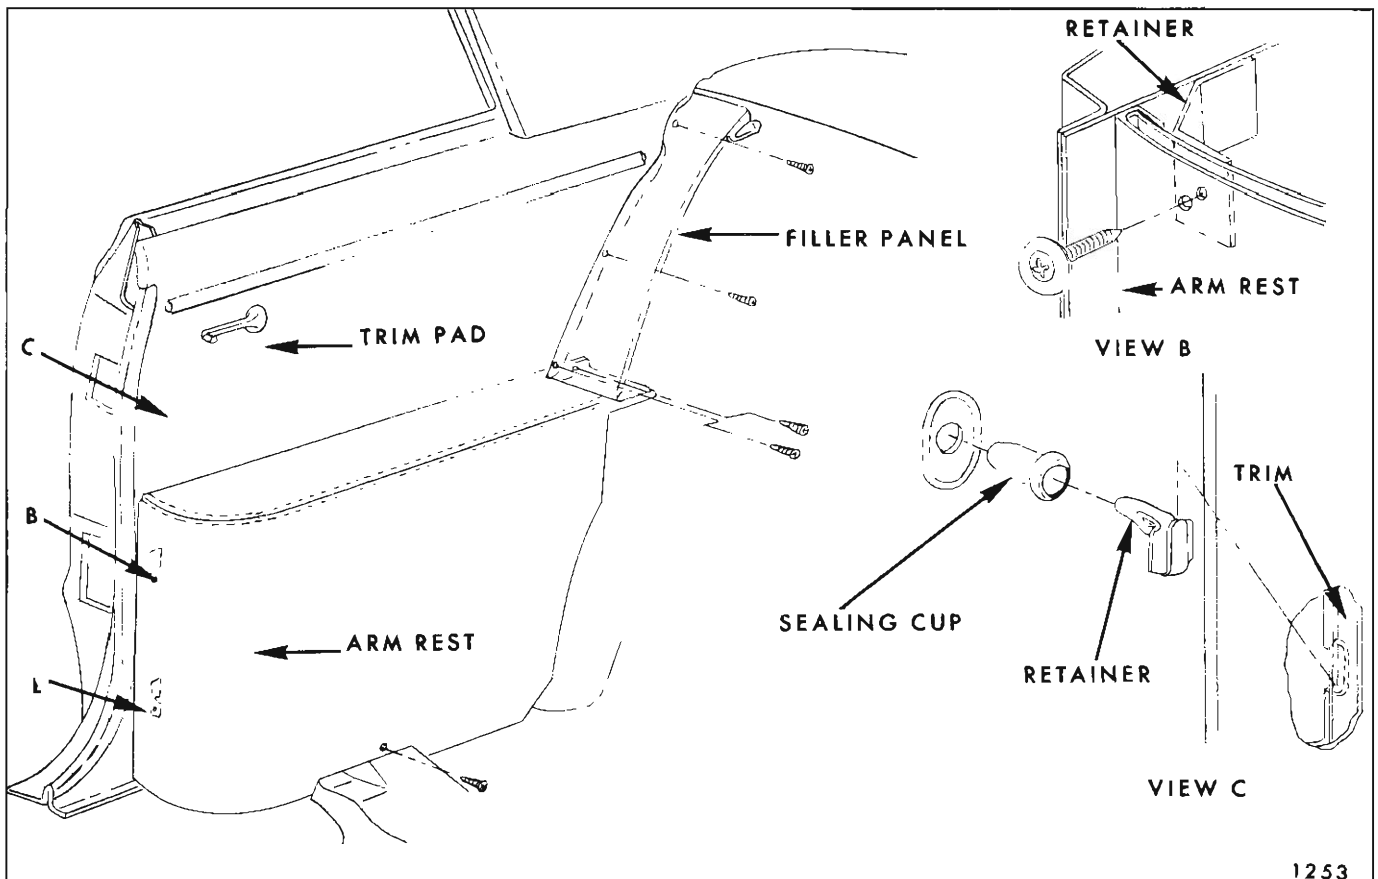

Fig. 2E3—Rear Quarter Trim Assemblies
4. With a screw driver, or other suitable flat-bladed tool, disengage trim pad retaining clips from sealing plugs along leading edge at rear body lock pillar (see View "C" in Fig. 2E3).